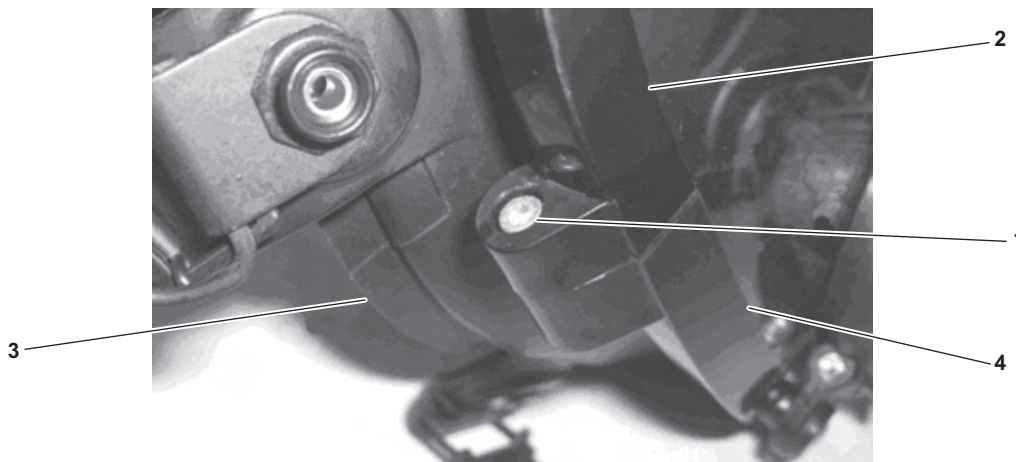

Figure 6-20. Removal of Bezel Screws
- (1) Remove the voice amplifier and the mounting bracket IAW paragraph 6.6.1 step b.
- (2) With a 7/64 in. Allen wrench, remove the bezel screws (figure 6-20, item 1). Set aside for installation.
- (3) Pull the upper bezel (figure 6-20, item 2) away from the faceseal (figure 6-20, item 3).
- (4) Pull the lower bezel (figure 6-20, item 4) away from the faceseal (figure 6-20, item 3).
- (5) Remove the faceseal (figure 6-20, item 3) from the lens, working symmetrically from the chin area to the forehead area. Use the fingers to work the faceseal from the lens.
- (6) If replacing the faceseal (figure 6-20, item 3), remove the head harness IAW paragraph 6.6.2 step b. Set aside for installation.
- (1) Visually inspect the bezels (figure 6-20, items 2 and 4) and the faceseal (figure 6-20, item 3) for heat damage, cracks, discoloration, cuts, or abrasions. If damage is noted, replace as required.
- (2) Inspect the bezels (figure 6-20, items 2 and 4) and the faceseal (figure 6-20, item 3) for cleanliness. If dirt or other foreign matter is found, clean IAW PMCS (Chapter 4).
- (6) Align the centerline mark on the lower bezel (figure 6-23, item 1) with the chin centerline marks on the lens (figure 6-23, item 2). Install the lower bezel (figure 6-20, item 4).
- (7) Install the upper bezel (figure 6-20, item 2) onto the facepiece (figure 6-20, item 1).
- (8) Ensure that both bezels (figure 6-20, items 2 and 4) are fully seated and that all centerline marks align.
- (9) Install the bezel screws (figure 6-20, item 1). Using a 7/64 in. Allen wrench, tighten the screws evenly, alternating from one side to the other until tightened.